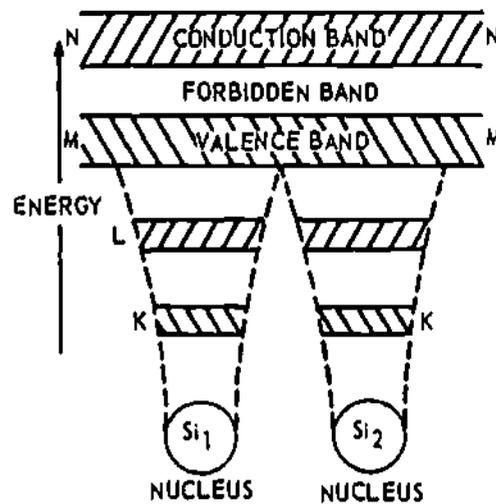

Figure 1-5. Energy Level Interaction of Silicon Atoms
1-13. When atoms are brought close together, there is an interaction between the individual energy levels of the atoms. Figure 1-4 illustrates the energy level of two silicon atoms (atomic number 14) that are separated by a distance large enough to prevent the shells from overlapping. Figure 1-5 illustrates the result when the atoms are moved closer together so that the valence shells overlap. Now, the valence shells of the two atoms act as a single **VALENCE BAND**. Only the outermost shell (M) has been affected; the inner shells (K and L) retain the individual energy levels of the separate atoms. As more and more atoms are brought together to form a piece of silicon, the
1-14. Recall that energy levels exist whether they are occupied by electrons or not. These unoccupied energy levels also combine when brought together with other atoms. Even though the N shells of the silicon atoms are unoccupied they will interact when brought together, forming a band of permissible energy. This is called the **CONDUCTION BAND**. The conduction band and the valence band are separated by the **FORBIDDEN BAND**. See Figure 1-5.